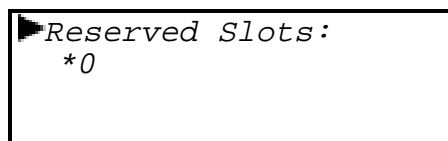

Figure 2-23 Set Reserved Slots Submenu
2. Scroll down on the Configure Submenu until you see 'Set Reserved Slots,' and select that option. The screen shown in Figure 2-23 appears.